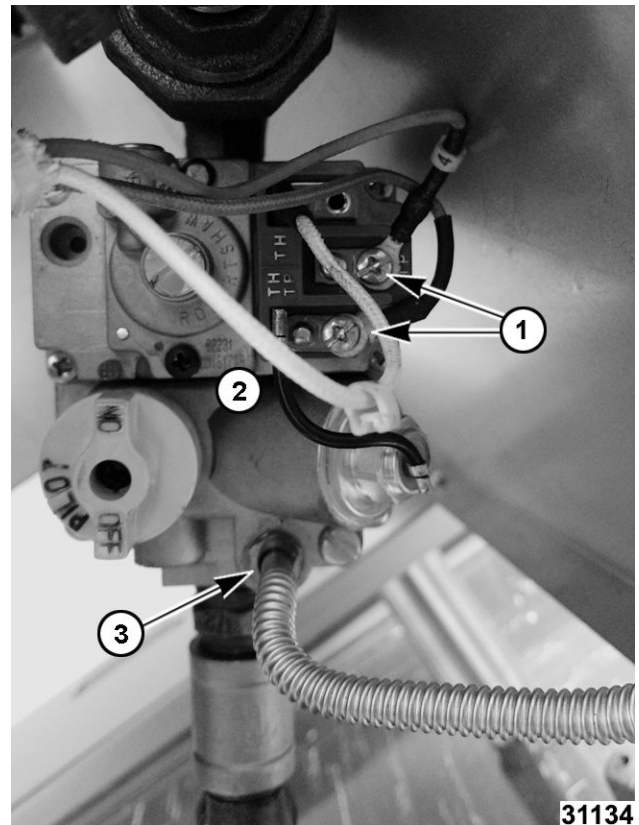

Fig. 24
3. Note and disconnect wires (1, Fig. 24) from combination valve (2, Fig. 24).
4. Disconnect pilot tubing (3, Fig. 24) from combination valve.